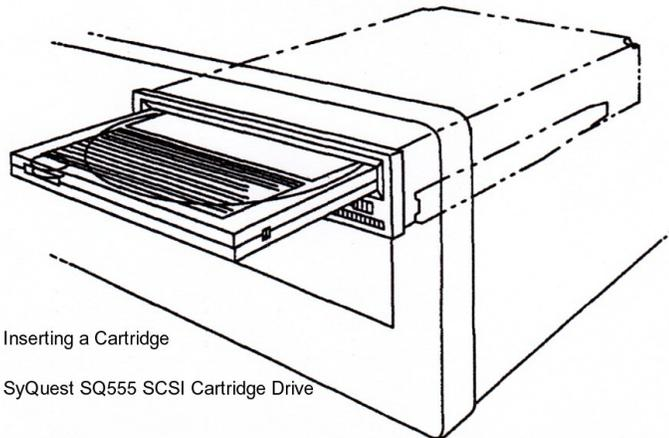

Figure 6.
2. Insert the cartridge into the drive through the drive door, see Figure 6. When the cartridge slides into the drive and comes to a stop, the load lever pops out.